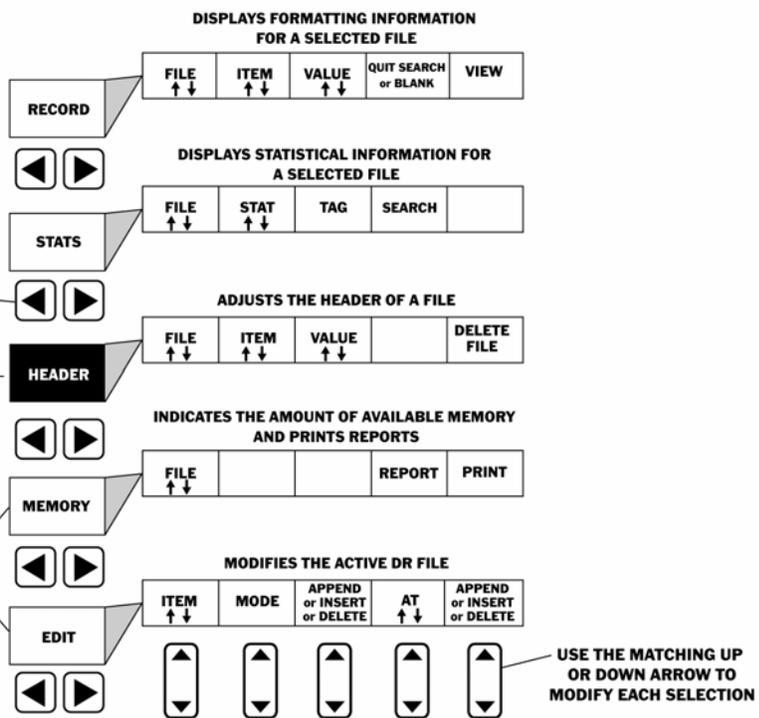

FIGURE 4-4—The DR Master Menu contains many submenus that include the File selection.
Step 1: Open the Data Recorder Menu accessed by pushing . Once the DR Menu (Figure 4-4) is opened, you'll note five submenus listed on the Submenu Bar and three to five selections listed across the bottom of the display.
Test or TG Mode by pushing  two times. Once the DR Menu is opened (Figure 4-4), you'll note five submenus listed on the Submenu Bar and between three and five selections listed across the bottom of the display.